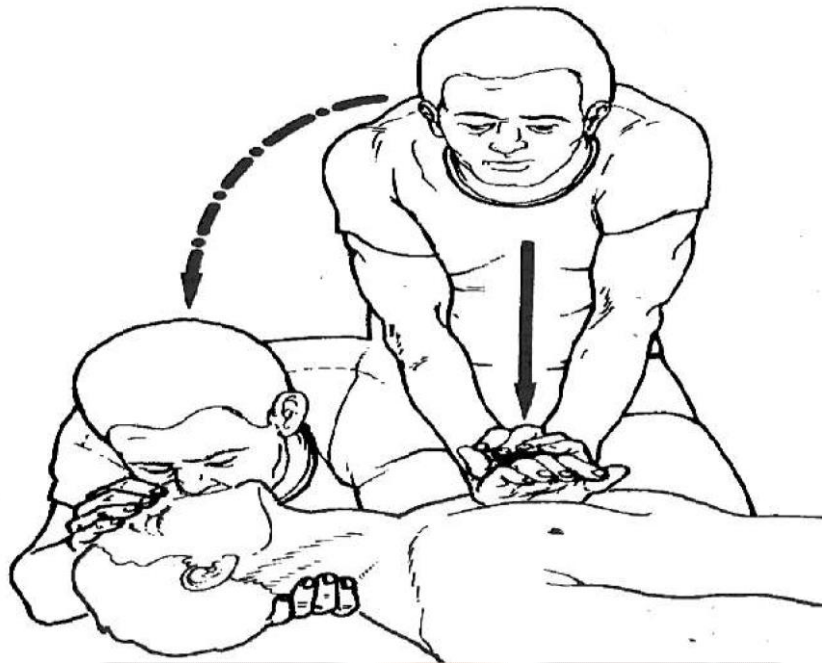

Fig 13 - Heart Compression with Single First Aiders
13. Due to the knowledge and awareness about transmission of communicable disease like AIDS through saliva and abraded skin one resorts to safer methods of mouth to mouth respiration with a sterile disposable flange as shown in fig 13 to avoid contact with saliva.